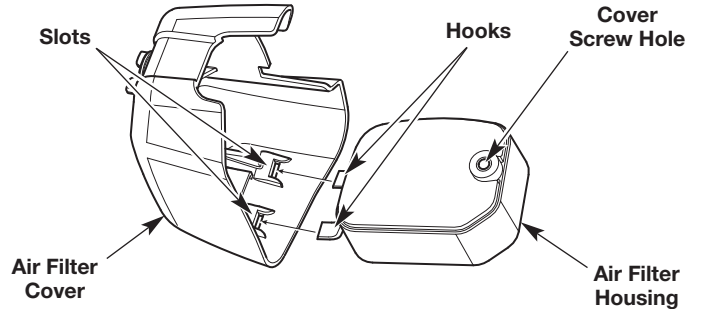

Fig. 10
7. Reinstall the air filter cover. Insert the hooks on the air filter housing into the slots on the air filter cover (Fig. 10).
8. Swing the air filter cover to the right and align the cover screw with the cover screw hole (Fig. 10). Tighten the cover screw to secure the air filter cover.